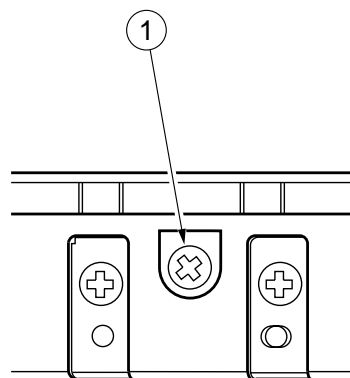

Figure 4-307
Turn the screw ① shown in Figure 4-307 to adjust the position of the cassette hook plate.